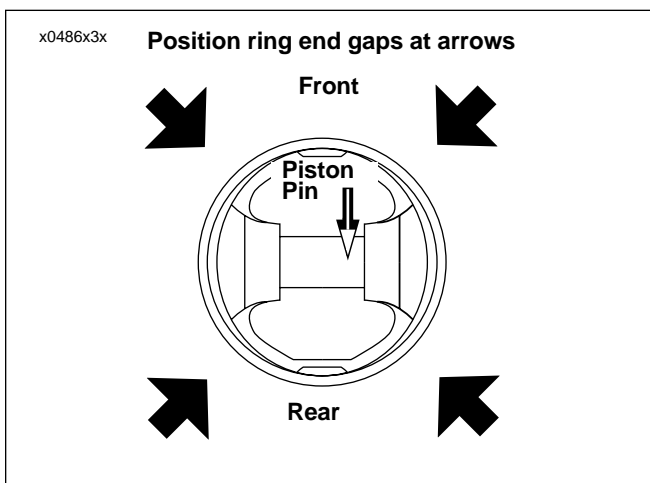

**Figure 3-77. Installing Piston Rings using Transmission Shaft Retaining Ring Pliers (Part No. J-5586)**
- See Figure 3-77. Apply engine oil to piston grooves. Use TRANSMISSION SHAFT RETAINING RING PLIERS (Part No. J-5586) to slip compression rings over piston into their respective grooves. Be extremely careful not to over expand, twist rings or damage piston surface when installing rings.